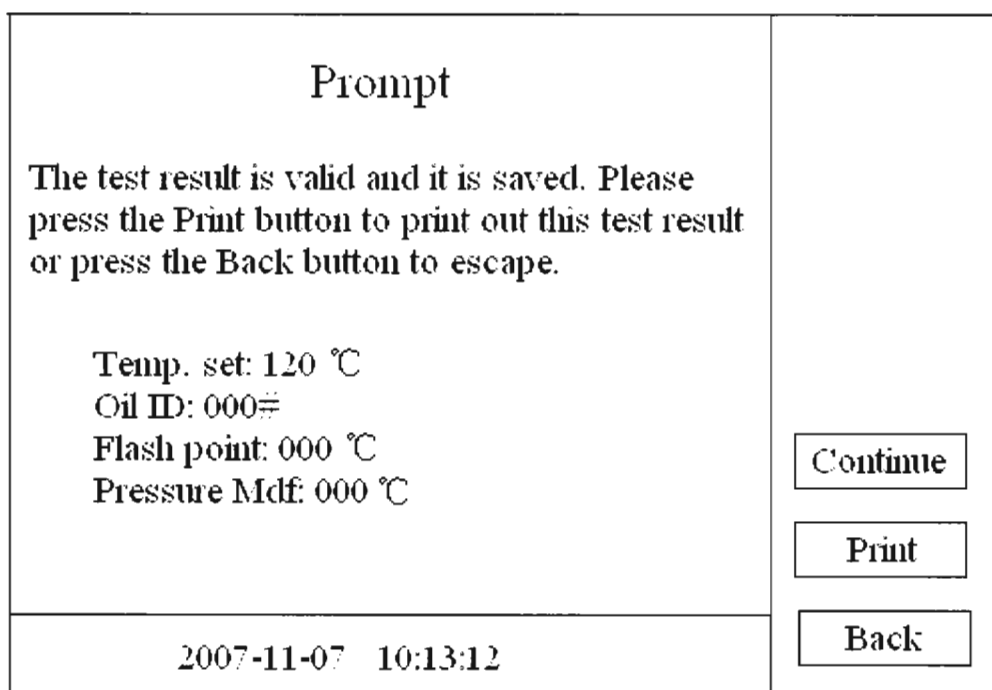
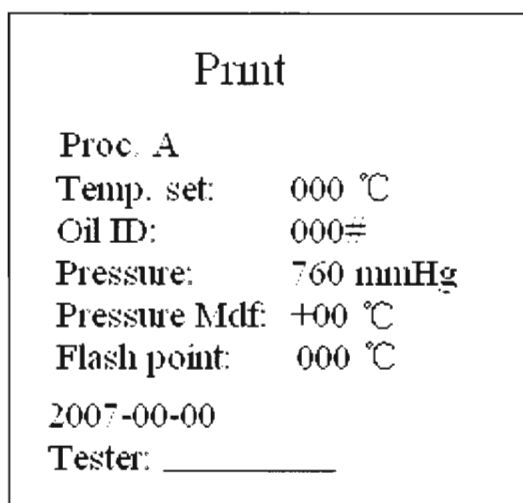

Fig.9
Fig.10
(9) It can detect flash point automatically when the temperature reaches to the flash point. Then the current sample temperature, and test time will be locked on the LCD screen. The test arm will be raised up, the data will be saved (The data will not be saved if test fails), the data is printed out, and the gas valve will be turned off. The instrument starts cooling at the end of the test. You can make next test only after the instrument is cooled down to a temperature 60 °C lower than the preset temperature. The interface is shown as Fig.9 at the end of the test. The interface for data printing is shown as Fig.10.